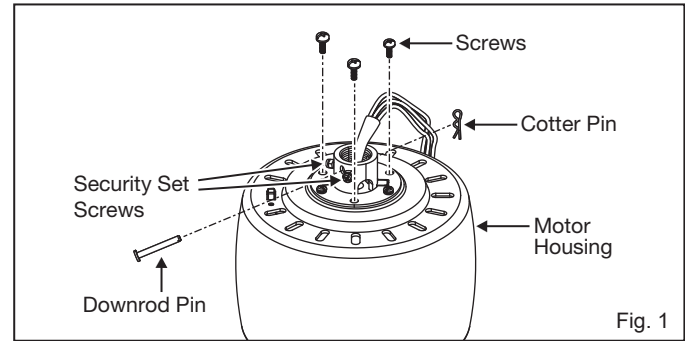

Fig. 1
- 1 Remove three of the six screws and lock washers (every other one) on top of the fan motor housing. Remove security set screws and the cotter pin and downrod pin on mounting collar. The downrod, ball cotter pin and downrod pin will not be used for this mounting (Fig. 1).
- 1 Remove ball from downrod by loosening set screw in the side of the ball. Slide ball down and remove cross pin; remove ball. (Fig. 1)